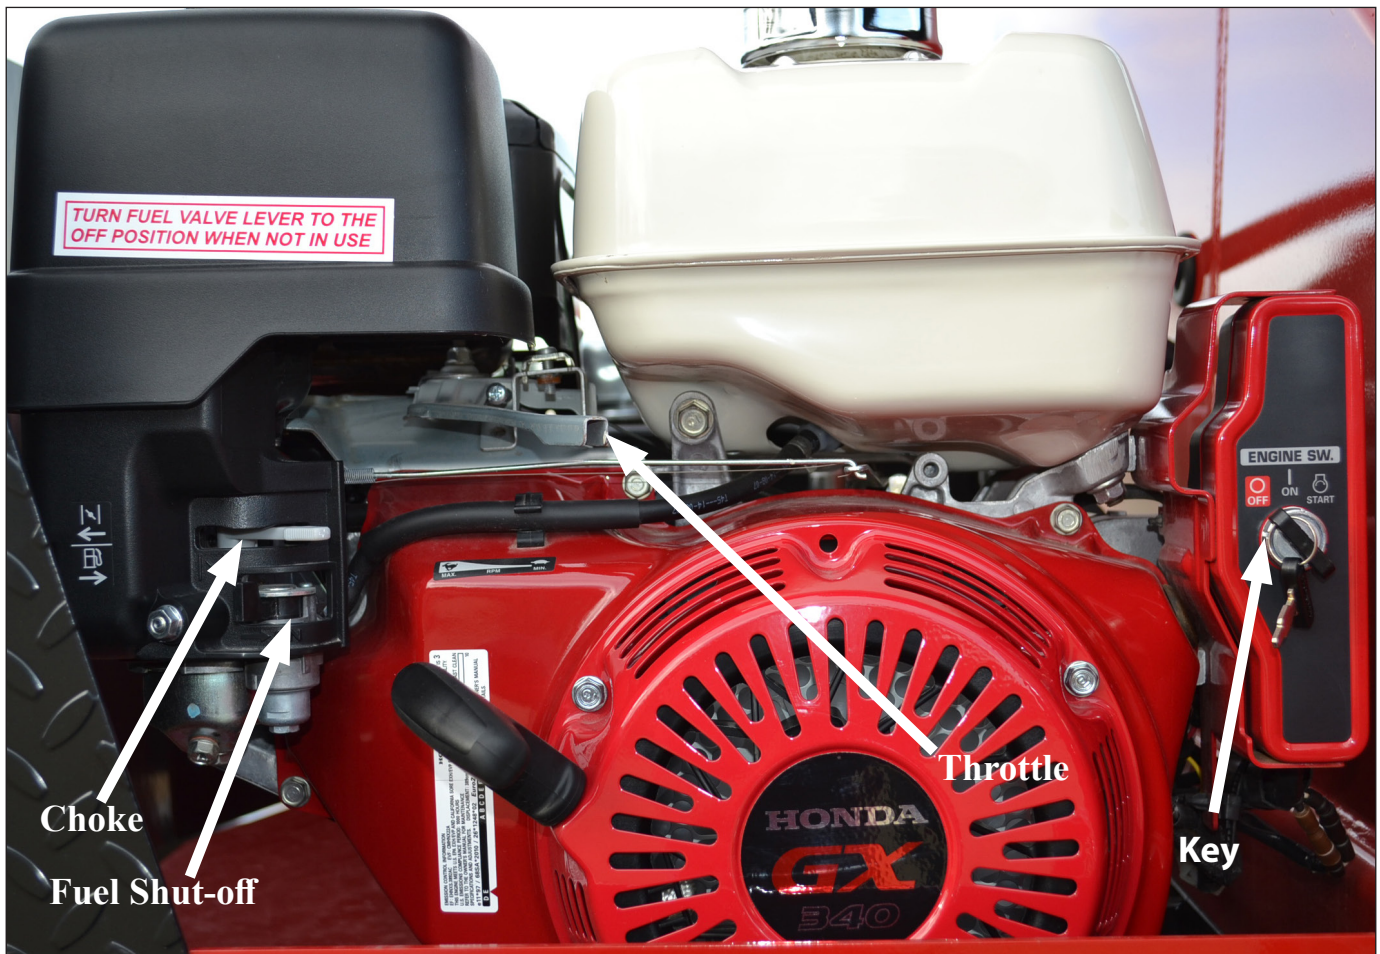

Figure 1.2
2. Slide the Fuel Shut-off Lever to the "ON" position (Figure 1.2).
3. Slide Choke Lever to the "ON" position (Figure 1.2).
4. Turn the key to the start position. Once engine starts, release key (Figure 1.2).
5. After starting, allow the engine to warm-up. Slide choke to the "OFF" position, and increase throttle speed (Figure 1.2).
6. To turn the engine off, slide the Fuel Shut-off to the "OFF" position (Figure 1.2).
2. Start the hydraulic power unit and increase throttle speed. (Allow hydraulic fluid to warm-up.)(Figure 1.2).